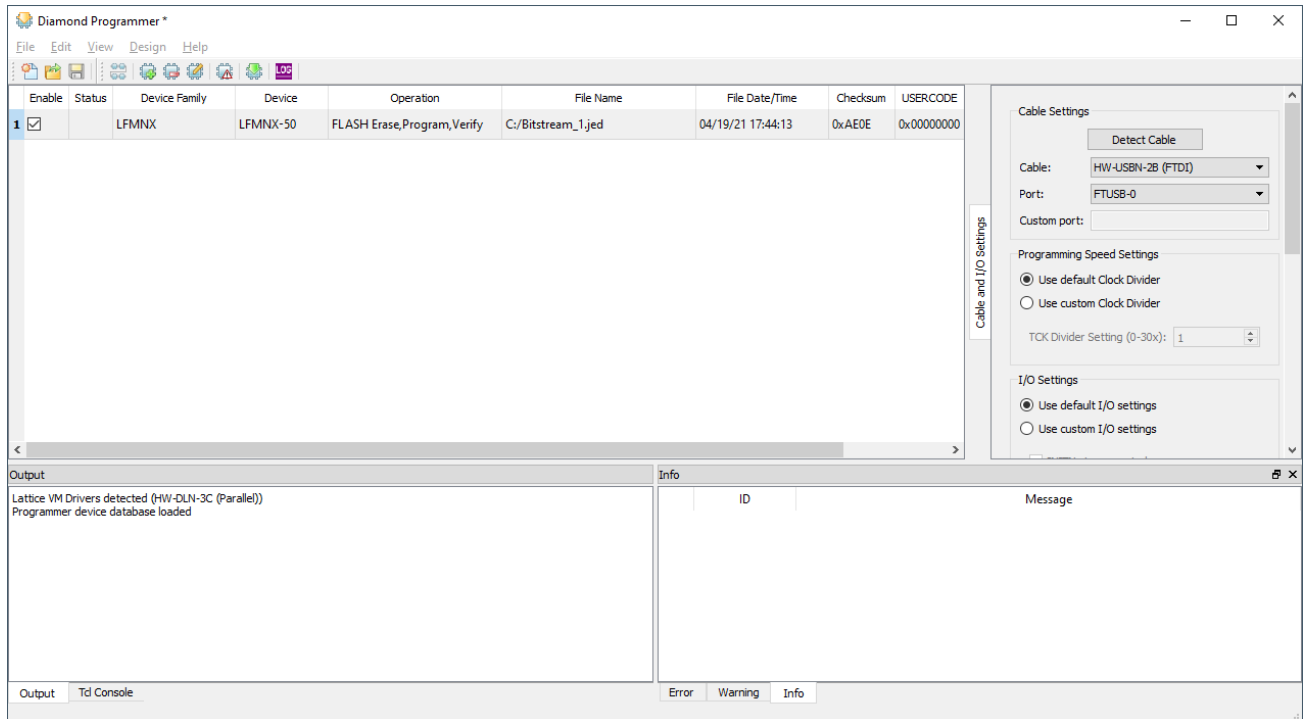

Figure 3.4. Diamond Programmer Window
2. In the Diamond Programmer graphic user interface (GUI), double-click in the **Operation** field (Figure 3.4).